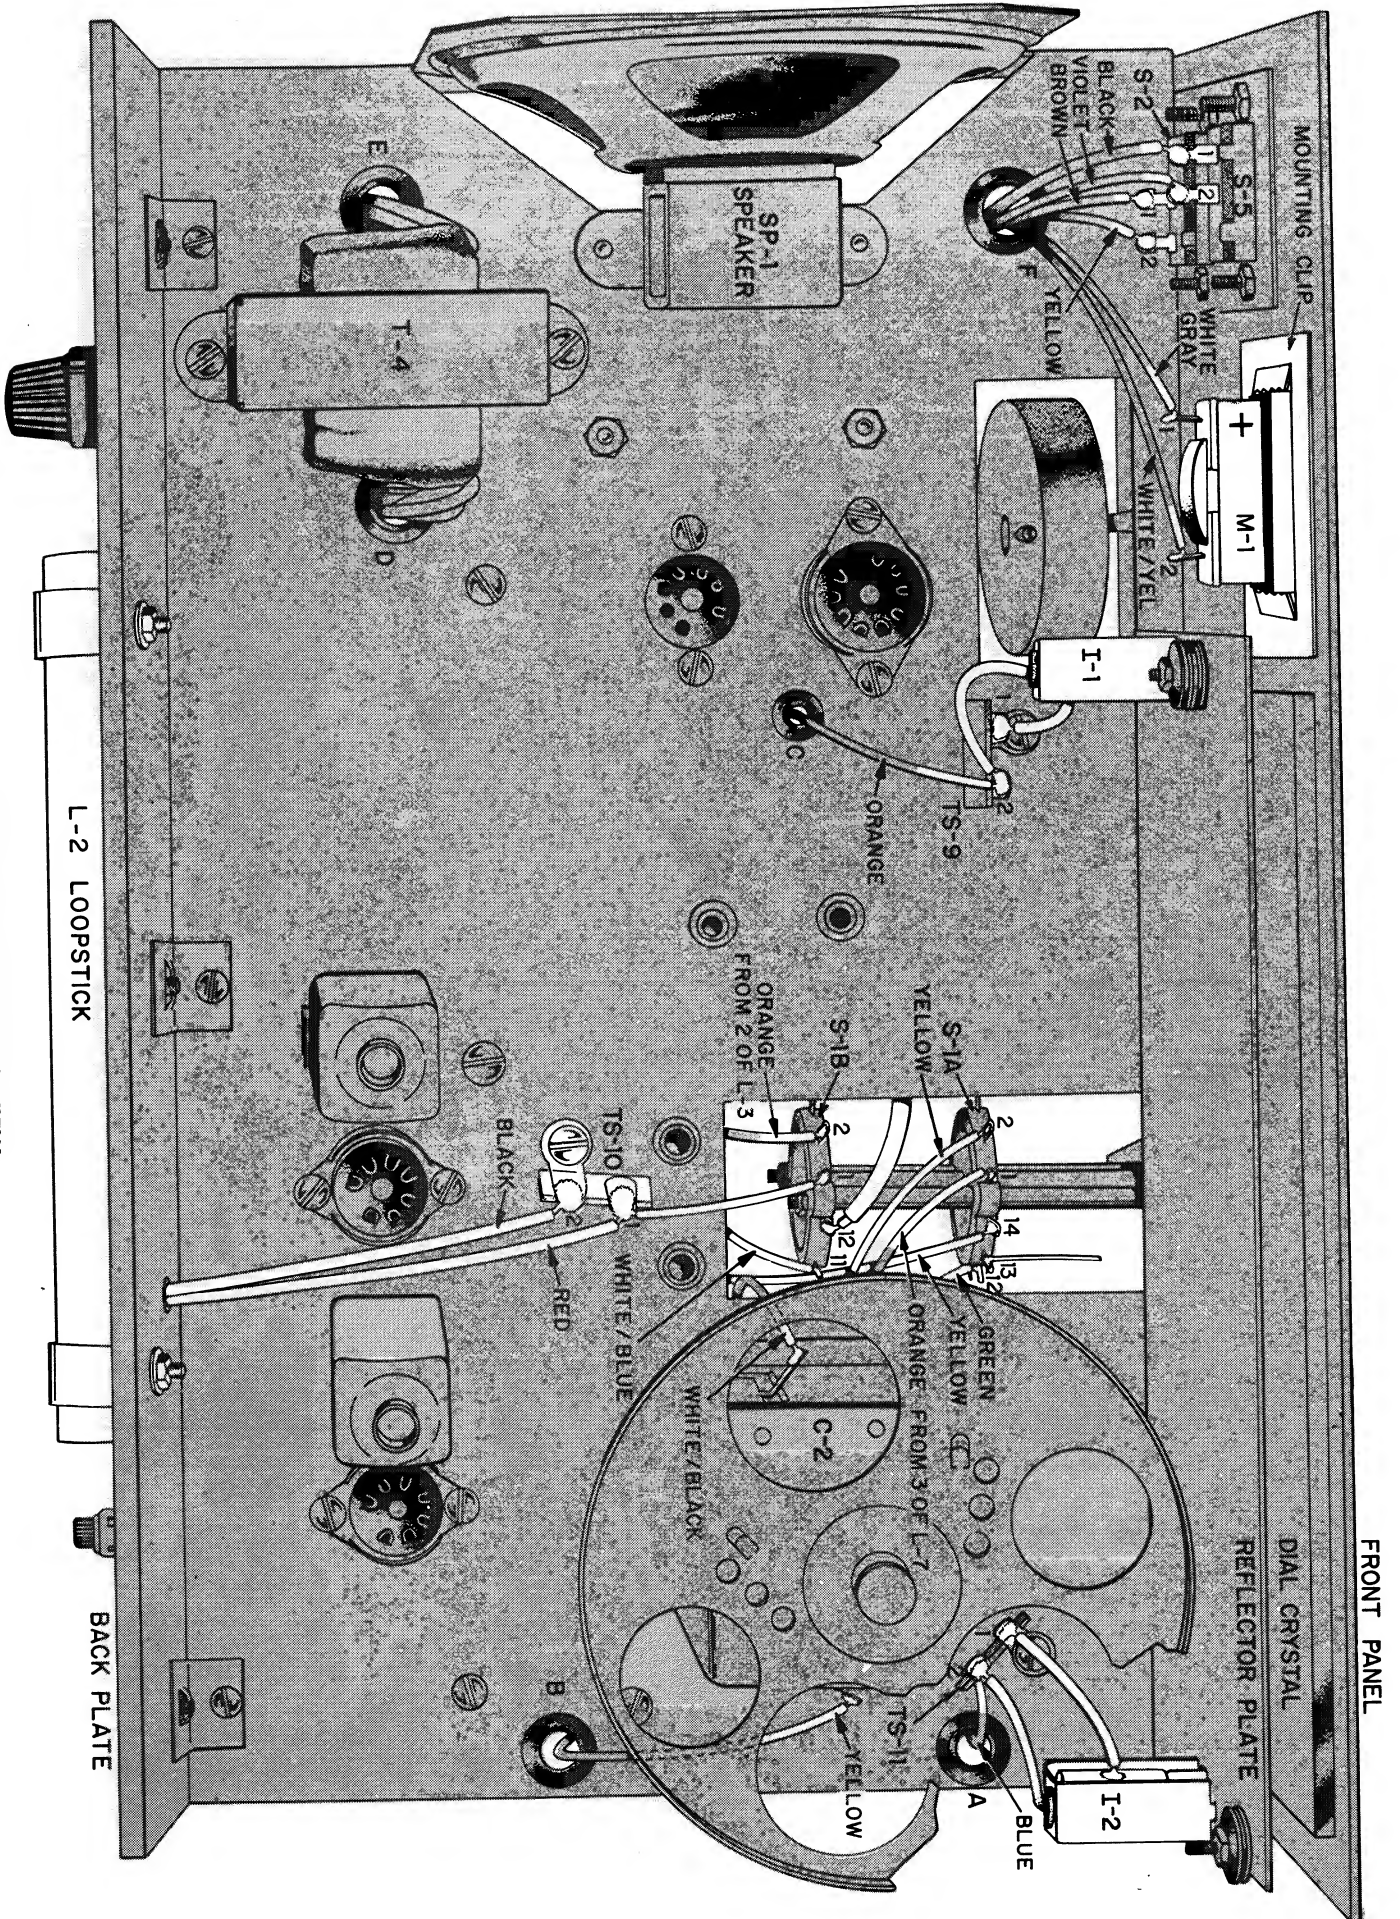

FIGURE 17. TOP WIRING VIEW
- ☒ Coil bracket and TS-11, a 2-terminal strip. Insert a 6-32x $\frac{1}{4}$ " screw through the mounting foot of TS-11 and position the strip and screw as shown in Figure 17. Place the foot of the coil bracket over the screw where it protrudes through the bottom of the chassis. Fasten the coil bracket and TS-11 to the chassis with a lockwasher and nut on the screw. Fasten the other end of the coil bracket with a 6-32x $\frac{1}{4}$ " screw, lockwasher, and nut.
SEE FIGURE 17.